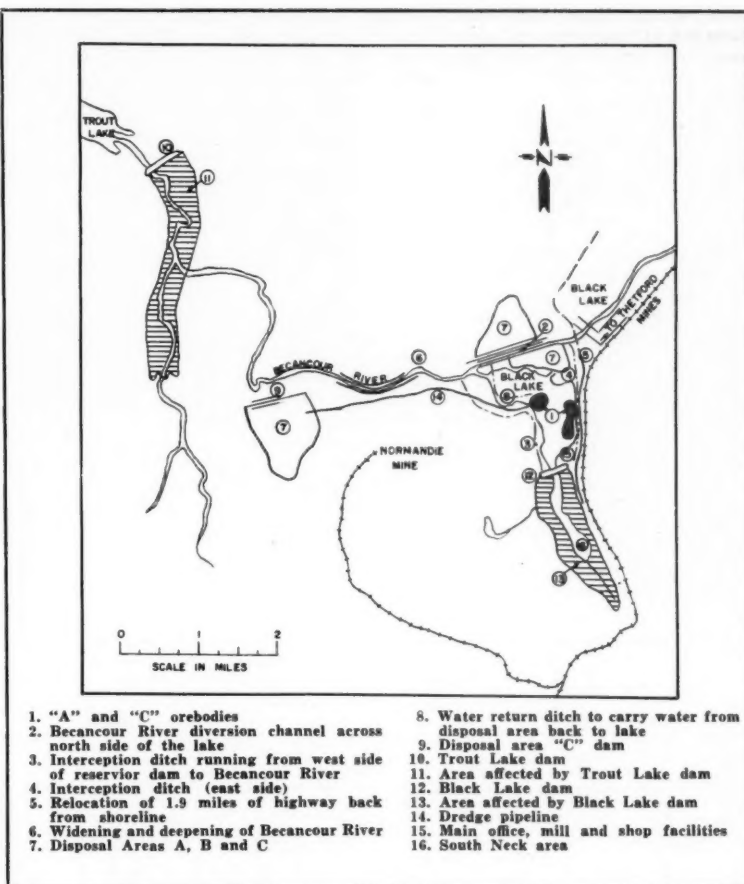

Fig. 2. Diagram of drainage project
Location of the two main orebodies designated as "A" and "C", with relation to hydraulic features constructed for mine development are shown by figure 2. Exploratory work to date has given lateral definition to these two orebodies, while a third, known as "B" orebody, lying between "A" and "C", has been only partially explored. Ore limits at depth have not been completely defined for any of the three ore zones. The ore tonnage calculated as amenable to open cut operations is 24,748,000 short tons, which, at the scheduled rate of production, is sufficient for 18 to 20 years of operation.
flooded during these high water periods and (4) in general, rearrangement of a set of drainage conditions, that nature had established in a most efficient manner, along the watershed for a distance of nearly nine miles. Figure 2 shows the main features of the overall hydraulic plan.